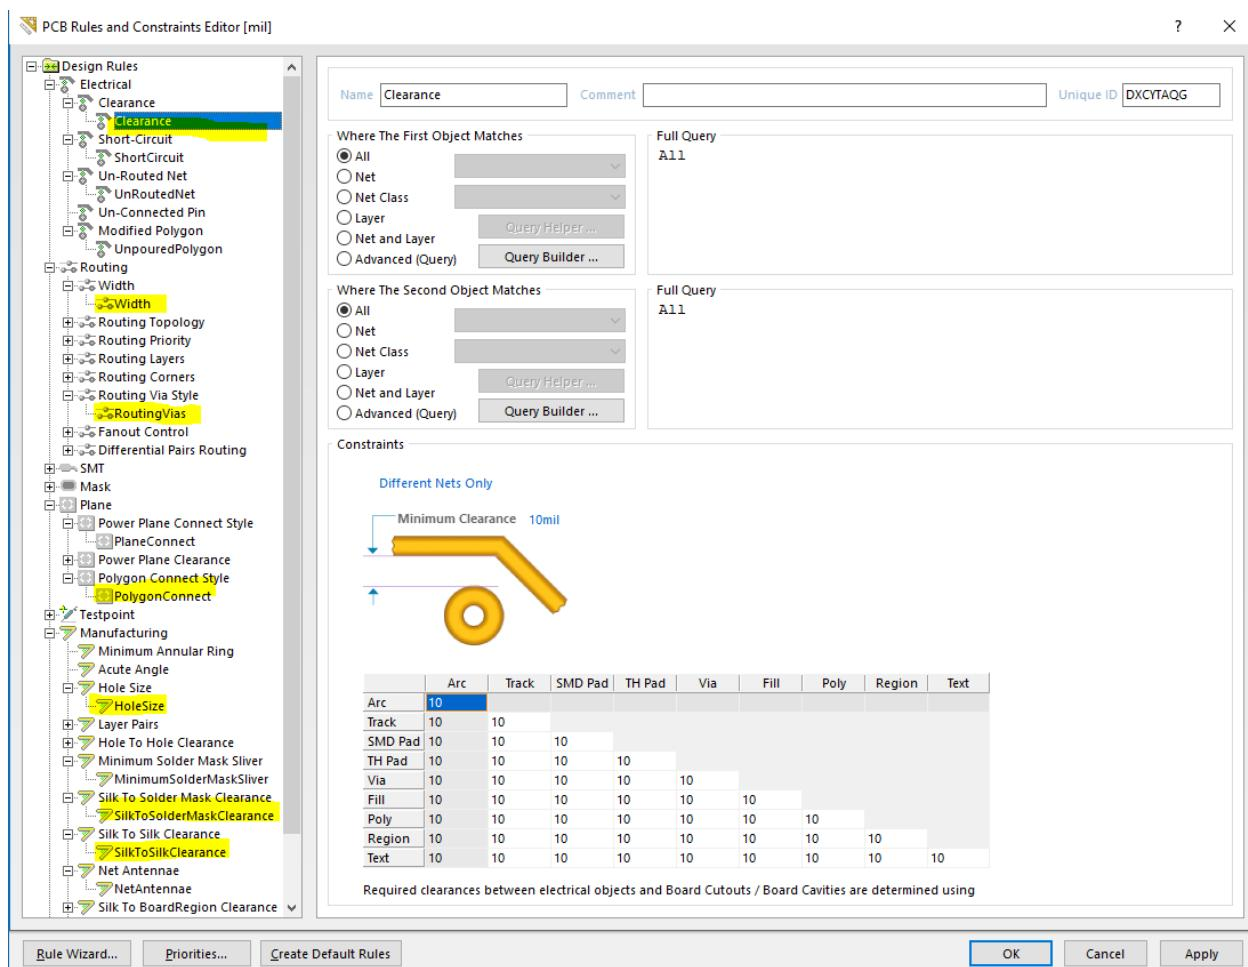

Figure 75: Altium PCB Rules and Constraints Editor dialog.
46. After defining the board shape it might be a good idea to check on the PCB Design Rules and cross check those with the Design capabilities of your manufacturer which is PCBway.com because they are cheap, PCBway Design Capabilities Link. The most important rules to start with are the minimum clearance, the minimum track width, and the minimum hole size. The Altium Design rules can be changed by **menu bar chose Design → Rules...**, the opened dialog is shown in Figure 75. Highlighted are the most important rules to check on and to edit according to the manufacturer capabilities. In general, to start with a design chose big clearance and width, as minimum settings because its simpler to make it smaller at the end then to expand objects where no space is available.